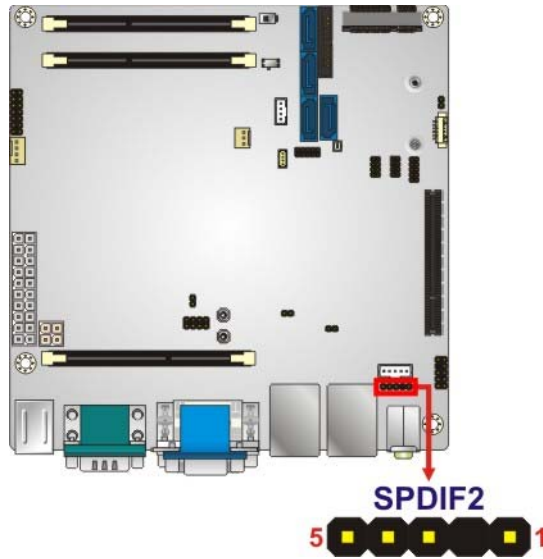

Figure 3-27: SPDIF Connector Location
- CN Location:** See **Figure 3-27**